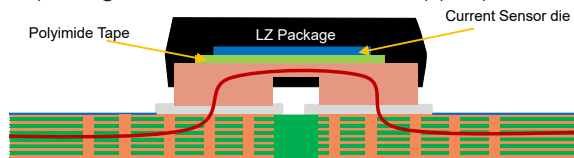
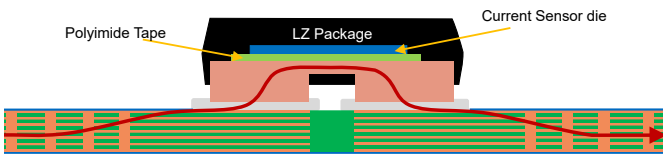

Figure 3: Vias Under Copper Pads, using LZ package in example
Figure 4: No Vias Under Copper Pads, using LZ package in example
The via-in-pad technique implements a via directly under a surface mount component pad connecting the inner layers to the top layer. When using vias-in-pad, the vias should be filled so the solder does not get sucked into the hole, reducing the solder joint quality. The most common via filling material is non-conductive. The via can be also filled with electrically and thermally conductive material, which tends to be more expensive than non-conductive material, and provides marginal improvements over non-conductive fill material. See Figure 3 and Figure 4 showing vias under the copper pads of the LZ package versus no vias under the copper pads.
1. **Thermal Performance:** By placing the vias directly under the integrated conductor leads, the PCB pad acts as both a current conductor and thermal relief, as shown in Figure 3. In this way, the heat generated by the component can be more efficiently dissipated through the board to the inner metal layers, where the heat can spread more efficiently away from the part.
3. **Reduced PCB Trace Resistance:** Because the vias directly connect multiple layers in parallel in the PCB, the resistance from the current source to the integrated conductor leads can be minimized on the PCB, as shown in Figure 3. Resistance in the current carrying layers around the IC will create heat in the PCB (see